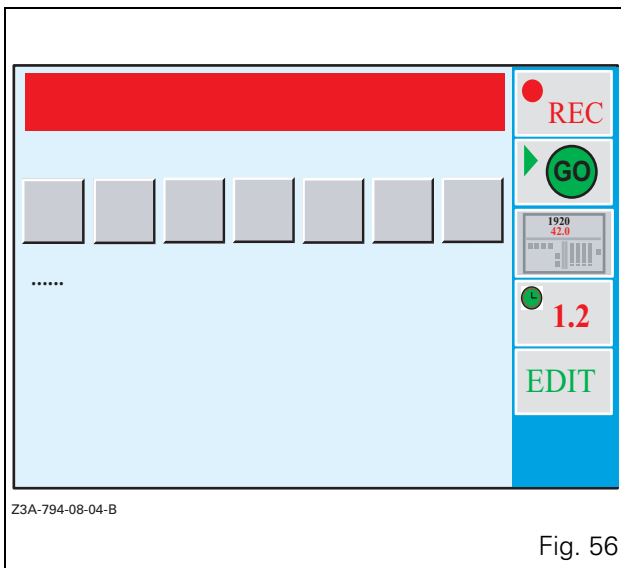

Fig. 56
- Pressing the key <<5 (facing symbol 29) calls up the HEADLAND configuration menu. The window (Fig. 56) is displayed.